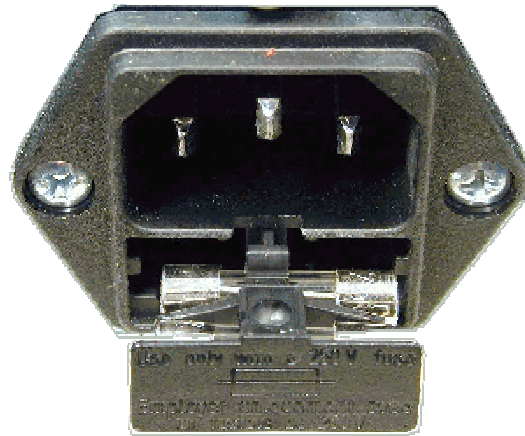

Figure 8 Changing the mains fuse
2. Open the fuse drawer in the mains connector (see Figure 8) with a screwdriver.